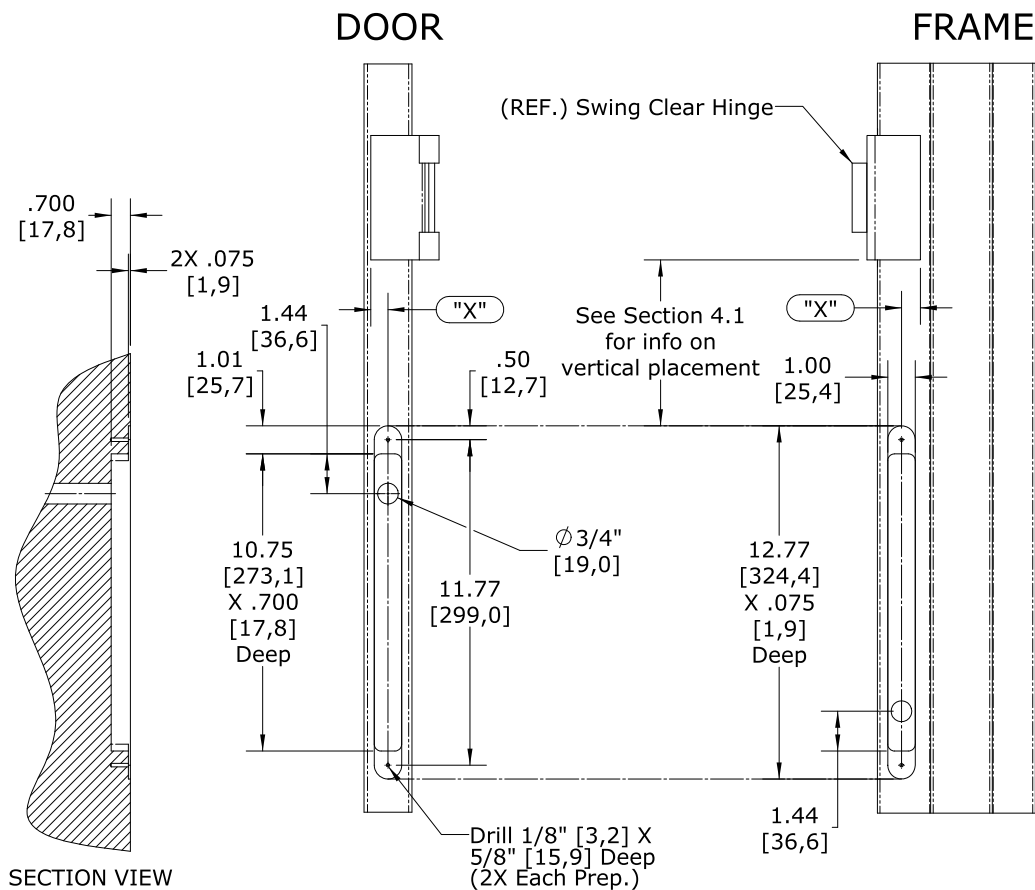
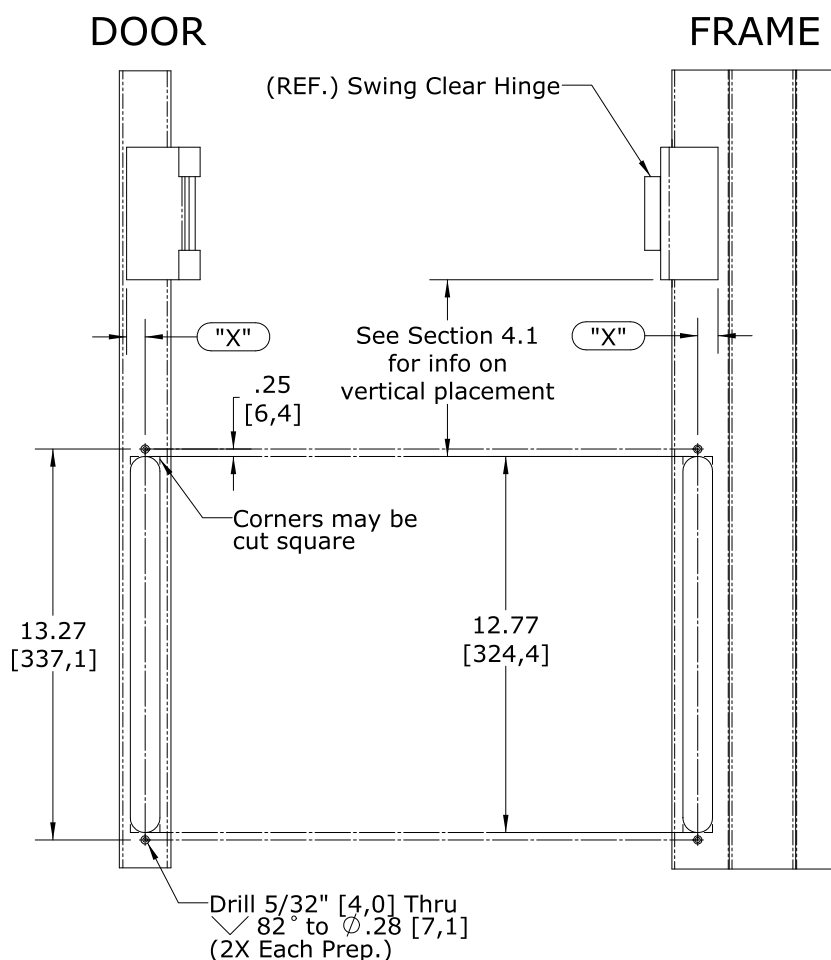

Figure 1 – Wood Door/Frame Prep.
Figure 2 – Metal Door/Frame Prep.
Because of potential structural obstacles within metal doors and frames, the EPT-SC lead covers should be positioned a minimum of 6" [152,4mm] from the any hinge recess (as shown in **Figure 2**) or centered between hinges.
- Mark a vertical centerline for the EPT-SC lead cover at the center of the door edge. Measure the distance from this mark to the edge of the hinge half that is attached to the door (see "X" of "DOOR" prep. in **Figure 1** or **Figure 2**). Use this same distance to mark from the edge of the hinge half on the frame (see "X" of "FRAME" prep. In **Figure 1** or **Figure 2**).
- Using the included template and the information shown in **Figure 1** (for wood) or **Figure 2** (for metal), align and mark the cutout positions required for the lead covers on both the door edge and the frame.
- Using a router with a 1/4" diameter bit, cut the main recess slot into the edge of the door and the frame to a depth of .700" [17,8mm] as shown in **Figure 1**.
Note: The 3/4" [19,0mm] diameter holes required for the wire feed thru in the door and frame must be positioned at opposing ends with respect to each other. (i.e. if the hole is toward the top of the lead cover to go in the door, then the hole for the wire feed thru of the lead cover in the frame should be at the bottom (see **Figure 1**).
- Mount each of the lead covers into place using a screwdriver and two (2) of the #6 X 5/8" Phillips flat head type "A" screws provided.
- Using a router or saw, create the cutout required for the lead cover. The cutout may be cut with a radius (as shown) or square-cornered as noted in **Figure 2**.